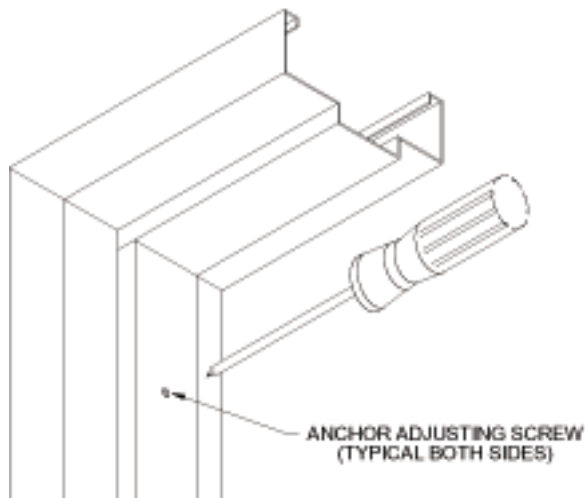

FIGURE 2
5. When providing knock down frames wrapping around drywall, use anchor adjusting screws and base anchors as shown in Figures 2 and 3, from ANSIA250.11-2001.